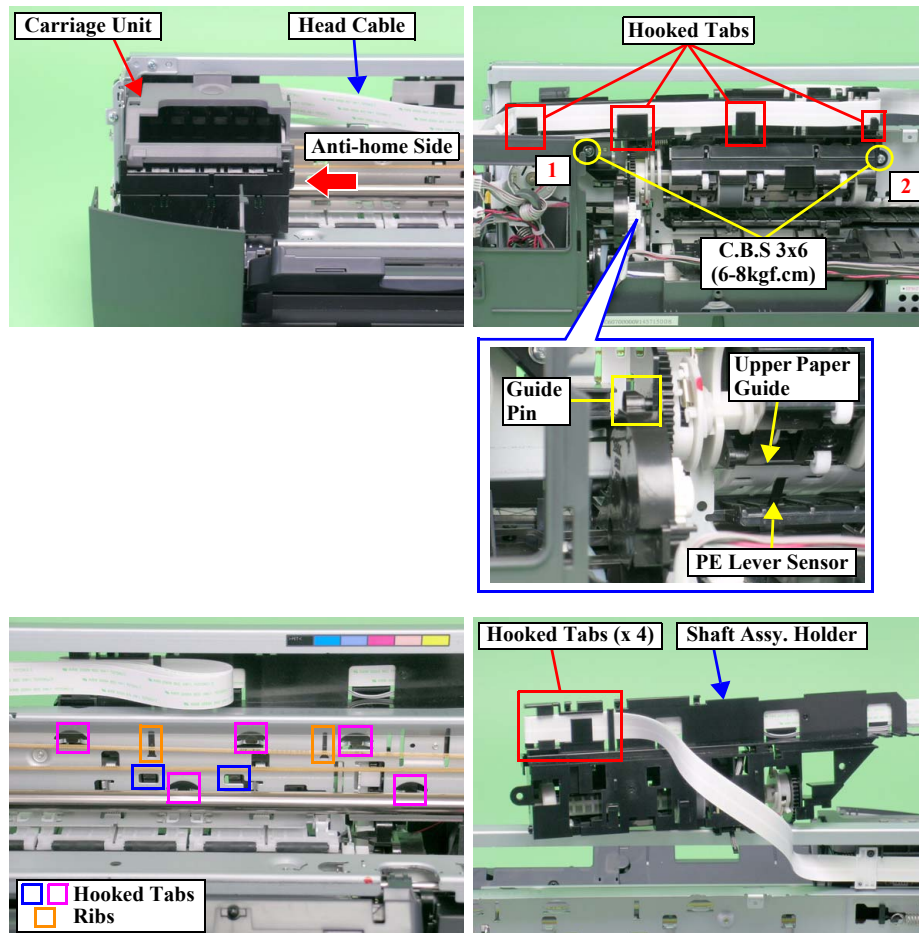

Figure 2-42. Removing the Shaft Assy. Holder (1)
- Press down the left side of the Upper Paper Guide (when viewed from the rear of the printer) to insert the PE Sensor Lever into the notch. Be careful not to damage the PE Sensor Lever. See Figure 2-42.
- Set the ribs (□) and tabs (□) of the Shaft Assy. Holder into the positioning holes of the Main Frame. See Figure 2-42.
- Tighten the screws to secure the Shaft Assy. Holder in the order shown in Figure 2-42.